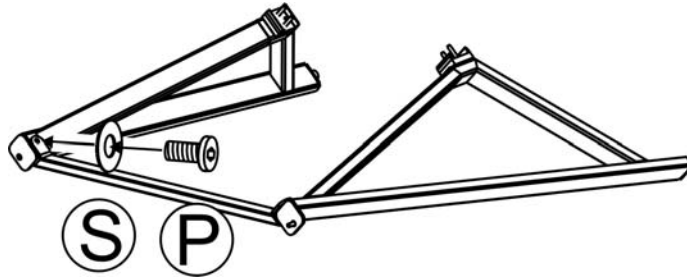

Figure 2
2. Attach a leg support to two table legs by using two 1/4"x20 mm bolts and Ø6.5x1.0 mm washers as shown in Figure 2. Guide the bolts through the holes in the leg support, into the pre-drilled holes in the legs. Hand tighten only 2-3 turns. Repeat for the other legs and leg support.